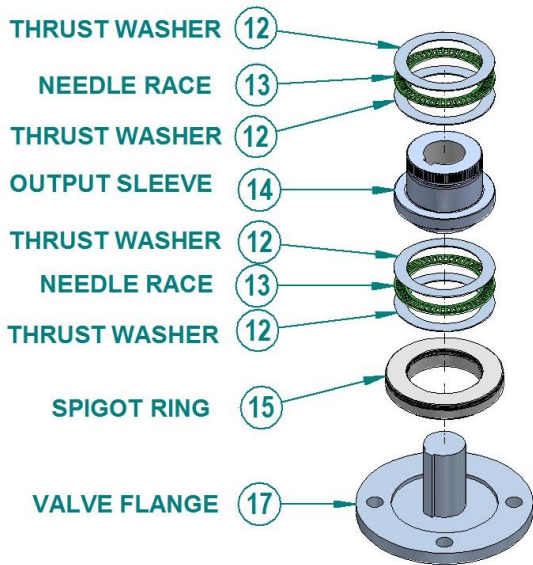
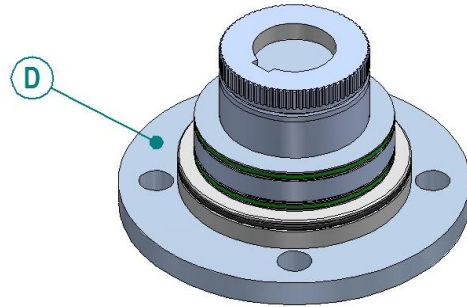

Figure 9 - Valve Stem Assembly
Figure 10 - Valve Stem (Assembled)
- In addition to the points in Section 7.2.3, it is recommended that the machined output sleeve assembly is assembled onto the valve stem first and then the gearbox lowered onto the output sleeve assembly. See Figure 9 and Figure 10 for assembly details.
An anti-friction compound containing molybdenum disulphide, such as MI-Setral-9M should be applied to the faces marked with “*” and highlighted in red in figure 9, before inserting the output sleeve back into the gearbox. For clarification on the suitability of an anti-friction compound, please contact Rotork Gears.